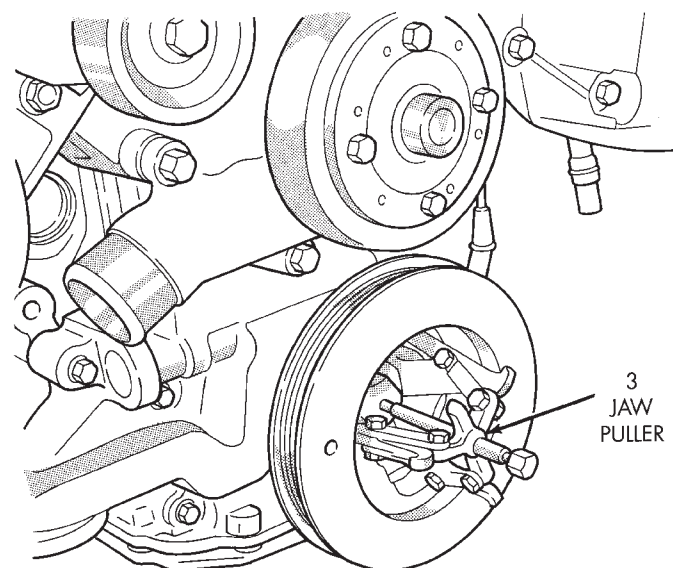

Fig. 27 Crankshaft Pulley—Damper
- (1) Disconnect the negative cable from the battery.
- (2) Remove fan shroud retainer bolts and set shroud back over engine.
- (3) Remove the cooling system fan.
(4) Remove the serpentine belt (refer to Group 7, Cooling System).
(5) Remove crankshaft pulley/damper bolt and washer from end of crankshaft (Fig. 27).